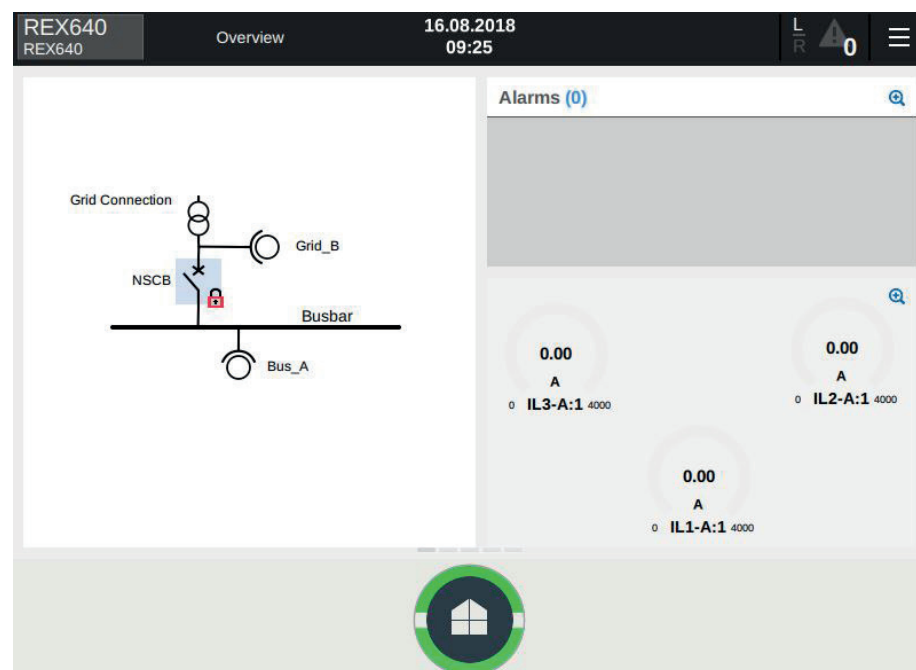

Figure 152: Grid transformer breaker is open
- The grid breaker is open. See Figure 152.